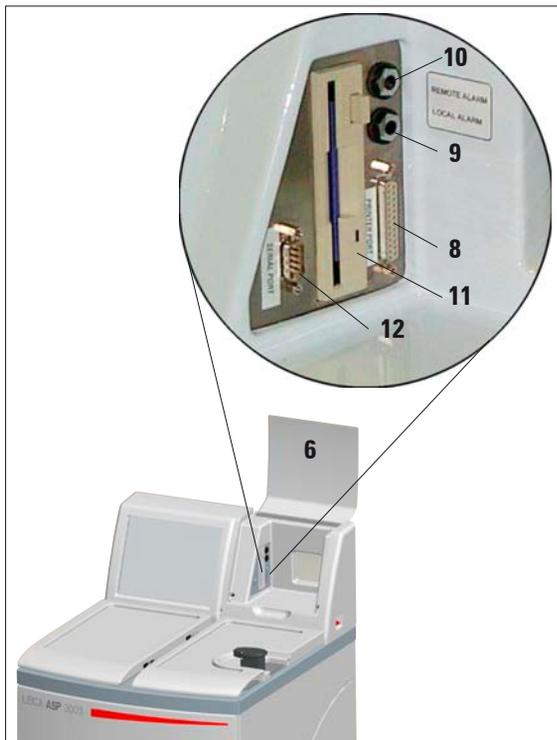

Fig. 8
- Lift the flap of the instrument console (6).
- Connect the printer to the printer port (8) in the console via a standard Centronics cable (Fig. 8)
If required, connect the local and/or remote alarm systems to the alarm sockets (9, 10 in Fig. 8) at the instrument console, using the phono jack (34) supplied (\varnothing 6.3 mm).